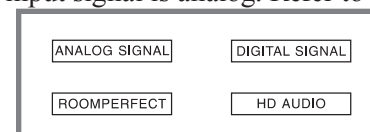

Figure 58
E. The ANALOG SIGNAL Display will illuminate when the audio input signal is analog. Refer to figure 58.